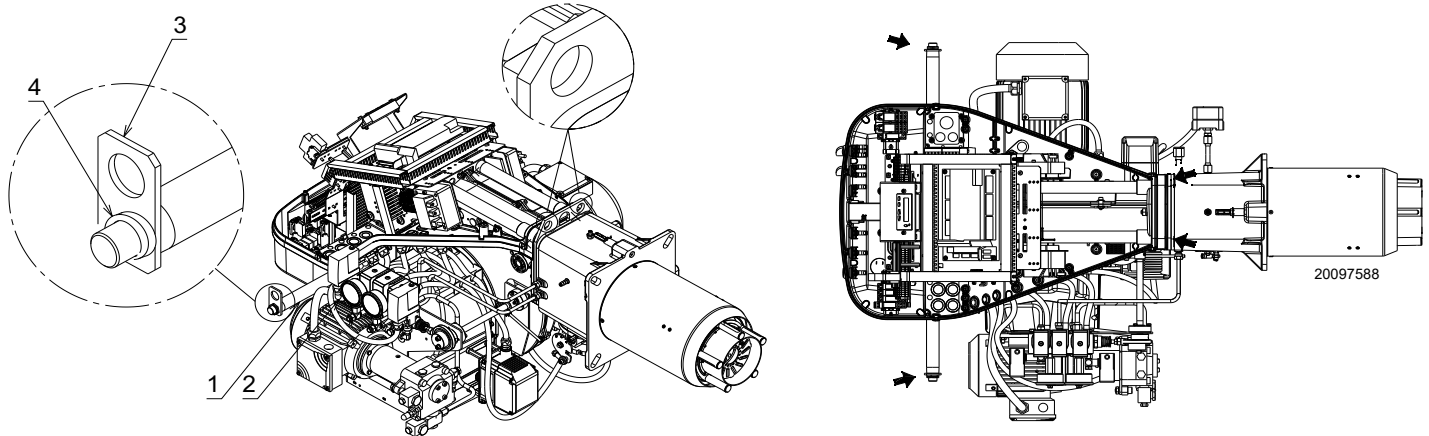

Fig. 10
- screw the two extension bars 1) on the pins 2)(Fig. 10);
- The four burner lifting points are indicated in Fig. 10.